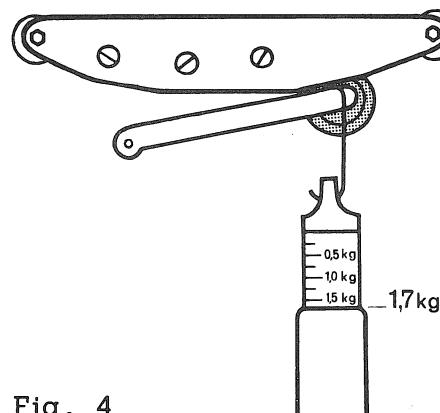
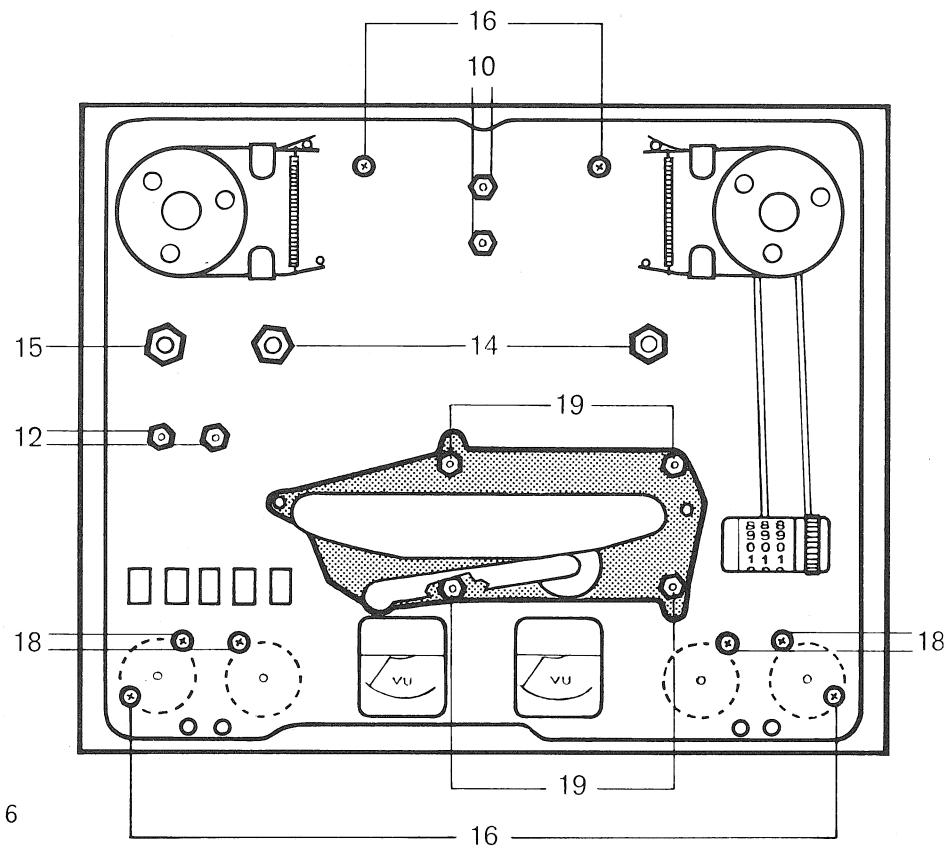
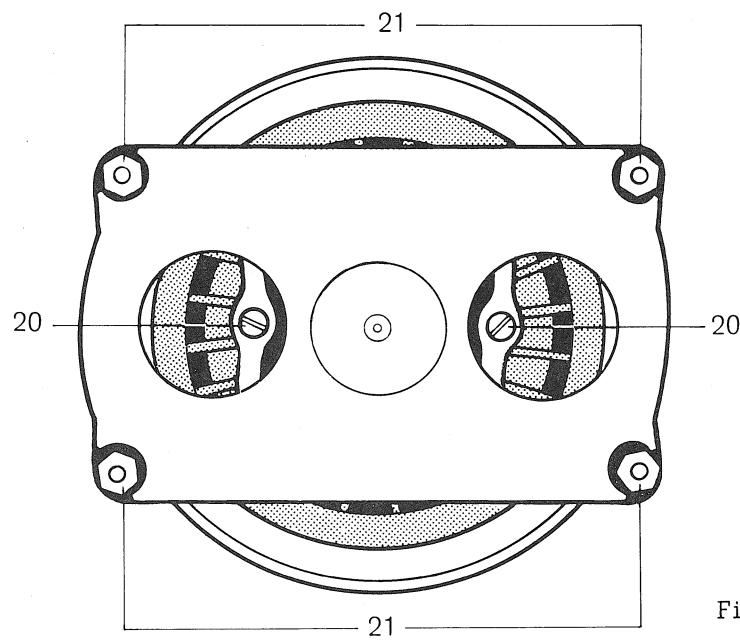

Fig. 4
Fig. 6
Fig. 7
The pressure of the pinch roller can be measured by a gauge fixed to the pinch roller arm as close as possible to the spindle of the pinch roller (fig. 4). A constant tone tape should be played and the pinch roller withdrawn by the gauge until the note is heard to change. A reading in the region of 1,7 kg should be obtained, Adjustment to this value can usually be obtained by turning nut no 13 in fig. 5 . Should this not provide the necessary amount of correction it is advisable to check the position of the solenoid no 11 in fig. 5 which will be correct when there is approx. 0.5 mm clearance at point A (fig. 5) with the solenoid energized. It is essential that the solenoid's-slug fully bottoms in the energized position and when properly adjusted, there should be no movement of the slug when lifting the pinch roller off the capstan. Correct setting can be obtained by loosening the nuts (12 in fig. 6) and moving the solenoid in the required direction.
Conventional switch cleaners are not recommended for the high current spring contacts used in the REVOX, and where cleaning is necessary, the contacts should be polished clean. The interlocking bars and push-button shafts may require occasional greasing with molybdenum grease. Where a part of the assembly needs replacement, unscrew the four fixing screws, bend the pushbuttons to the right and ease the unit to a better working position. For better access to the switch assembly, the housing of the pinch roller solenoid should be removed by undoing the M 4 nuts (pos. 12 in fig. 6).
Having removed the chassis, as described in sect. 2.1. from the cabinet and the loudspeaker and panel, separate upper and lower chassis sections by undoing screws no 16 shown in fig. 6. Lift upper chassis without exerting excessive force, if necessary loosen the fixing screws of the selector switches (18 in fig. 6) to gain more freedom of movement.
Unscrew the capstan mounting nuts (19 in fig. 6) and remove the assembly downwards and forwards out of the chassis. The fixing screws 20 in fig. 7 on the flexible coupling are to be removed through the large holes in the capstan bearing plate. The motor mounting screws (21 fig. 7) should now be removed using REVOX's special 8 mm nut driver, after which the flywheel assembly can be separated from the motor.